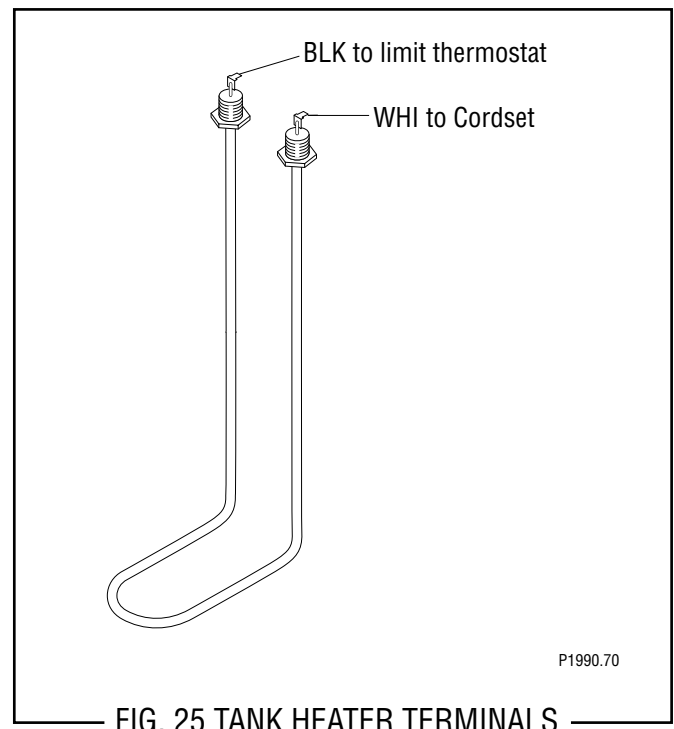

FIG. 25 TANK HEATER TERMINALS
15. Refer to FIG. 25 when reconnecting the wires.